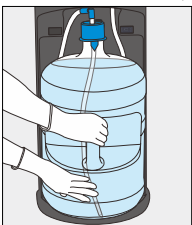

Figure 7
- (8) Slide bottle into cabinet (Figure 7) and close the door (slide door downwards to close)